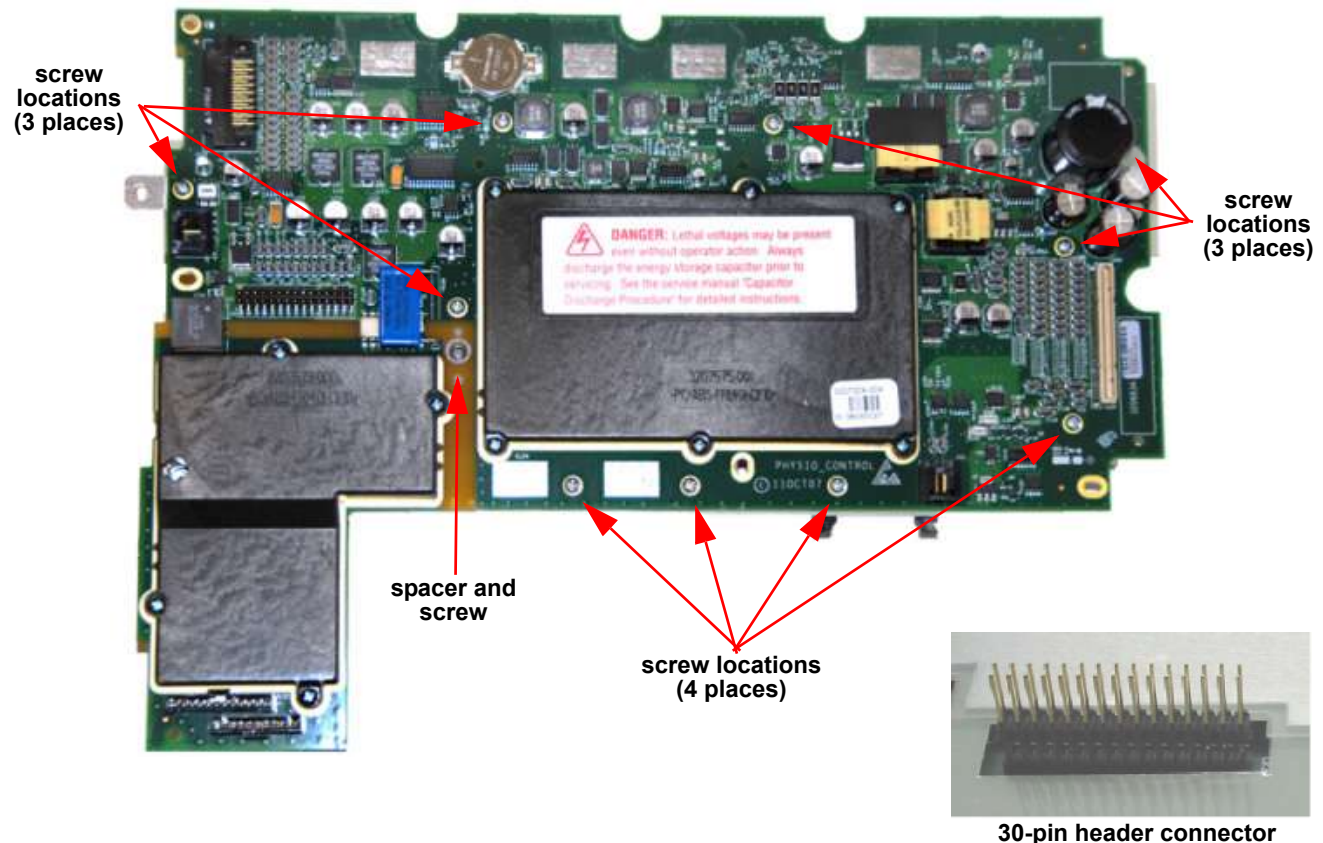

Figure 10.46—System/therapy PCB screw locations
4. Align the system PCB (3206834) with the mounting bracket and 30 pin header into J5. Fasten with ten new screws (202253-761); torque to 6.8 in-lb (see Figure 10.46 on p. 365).